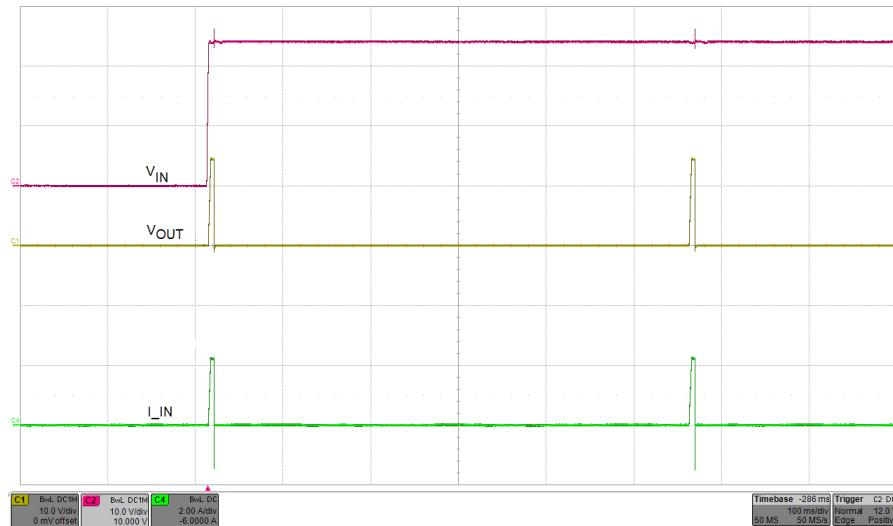

Figure 4-6. J5/J12 = Floating, Current Limit (2.23 A), Circuit Breaker With Auto-Retry Mode
18. Enable the power supply and verify the circuit breaker with auto retry fault response waveform as shown in Figure 4-6.